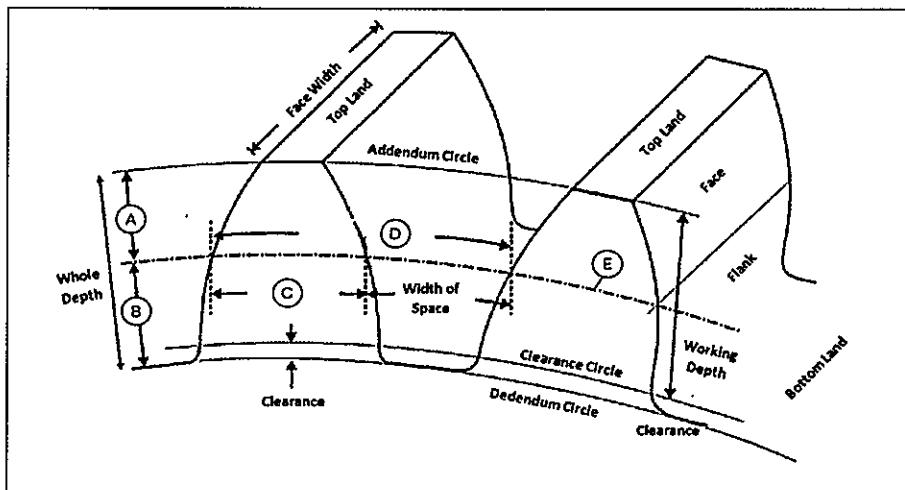

Figure 3a / Rajah 3a
- (a) Name the parts labeled A, B, C, D, and E of the spur gear shown in Figure 3a below: